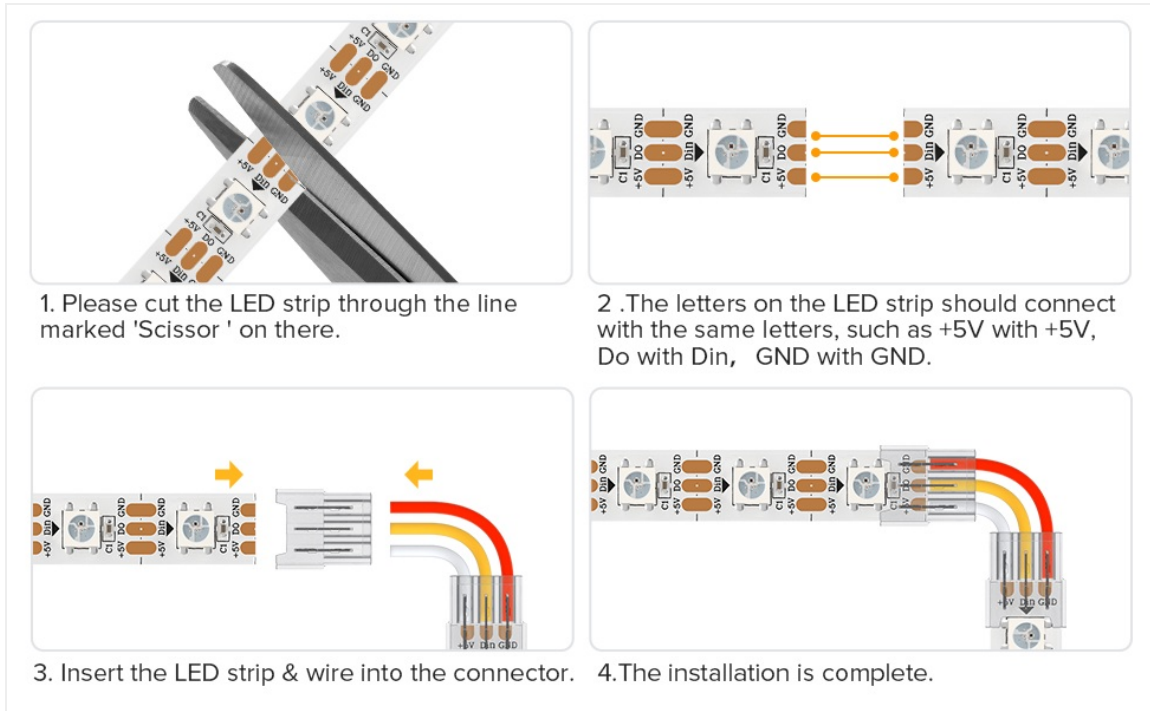
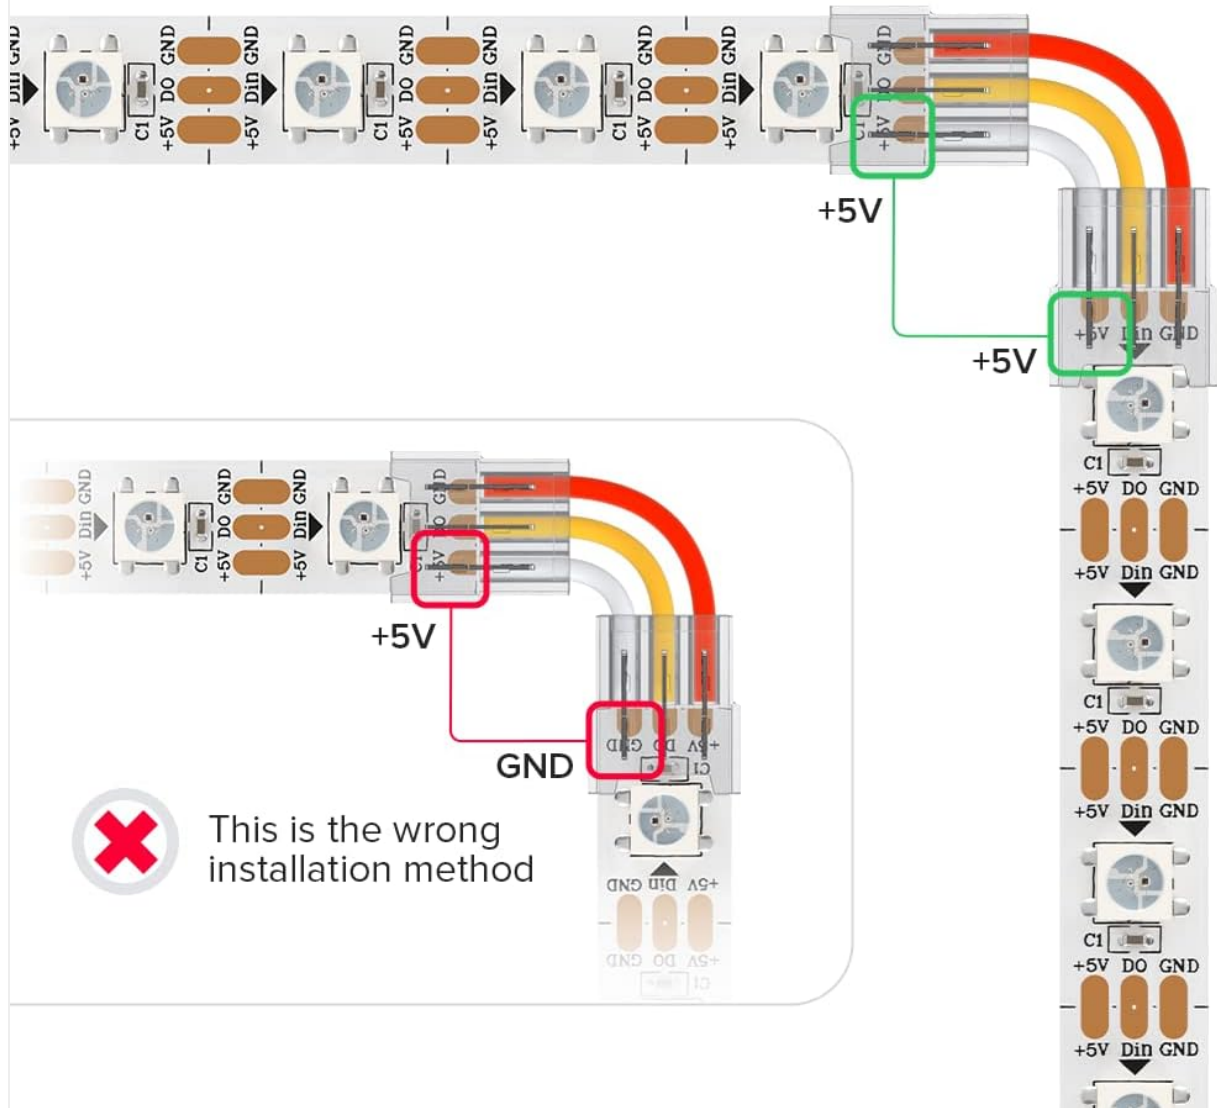

Figure 4.2.2: Matching LED strip polarity.
Figure 5.1: Correct vs. Incorrect Wiring.
- **Incorrect Polarity:** Ensure that the +5V, Din, and GND labels on the LED strip are perfectly aligned with the corresponding contacts in the connector. Misalignment can cause a short circuit or prevent the strip from functioning. Refer to Figure 4.2.2 and Figure 5.1.